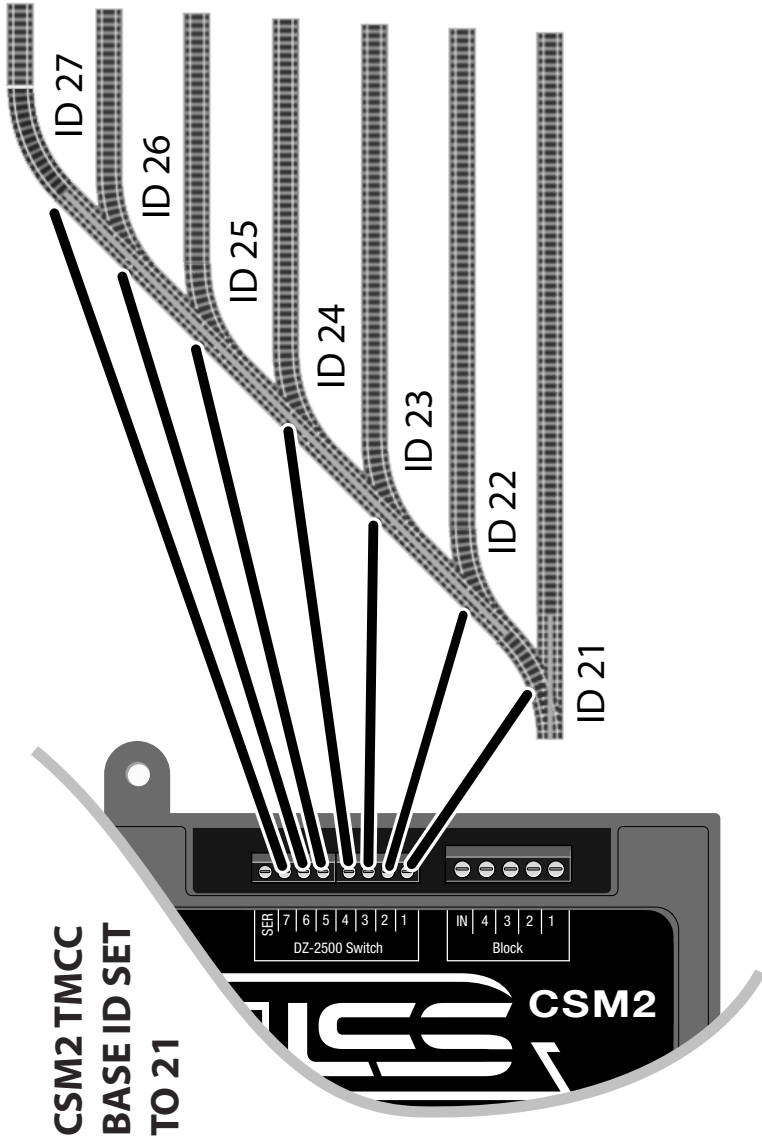

Figure 14. Each switch-sense screw terminal must connect to a DZ-2500 with a corresponding TMCC ID
3. If your layout includes additional modules such as CSM2, BPC2, or ASC2 devices, you can use the spare A and U terminals on the first unit to jumper power to your next device as shown in Figure 14 on page 22.